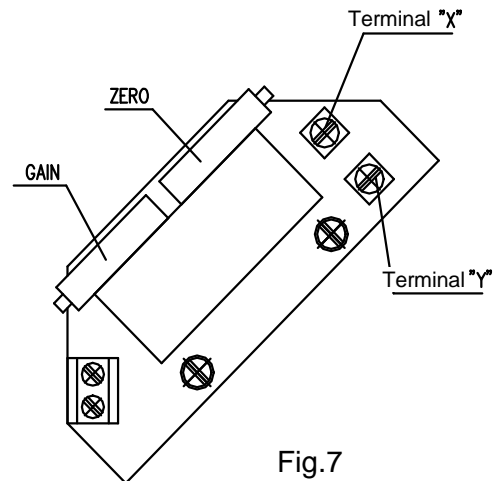

Fig.7
3.4.1 EPV – the 2-wire version (Fig. 7,7a)
- Adjust the resistive transmitter according to the previous chapter. The resistance is to be metered on the terminals X-Y (Fig. 7,7a). The used transmitter resistance is 100 Ω.
- Adjust the resistive transmitter according to the previous chapter. The resistance is to be metered on the terminals X-Y (Fig. 7,7a).